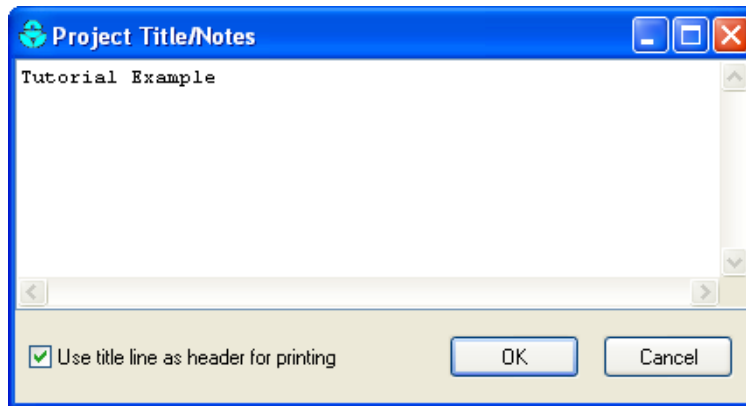

Figure 2-8. Title/Notes Editor.
2. In the Project Title/Notes dialog that appears (see Figure 2-8), enter “Tutorial Example” as the title of our project and click the **OK** button to close the dialog.